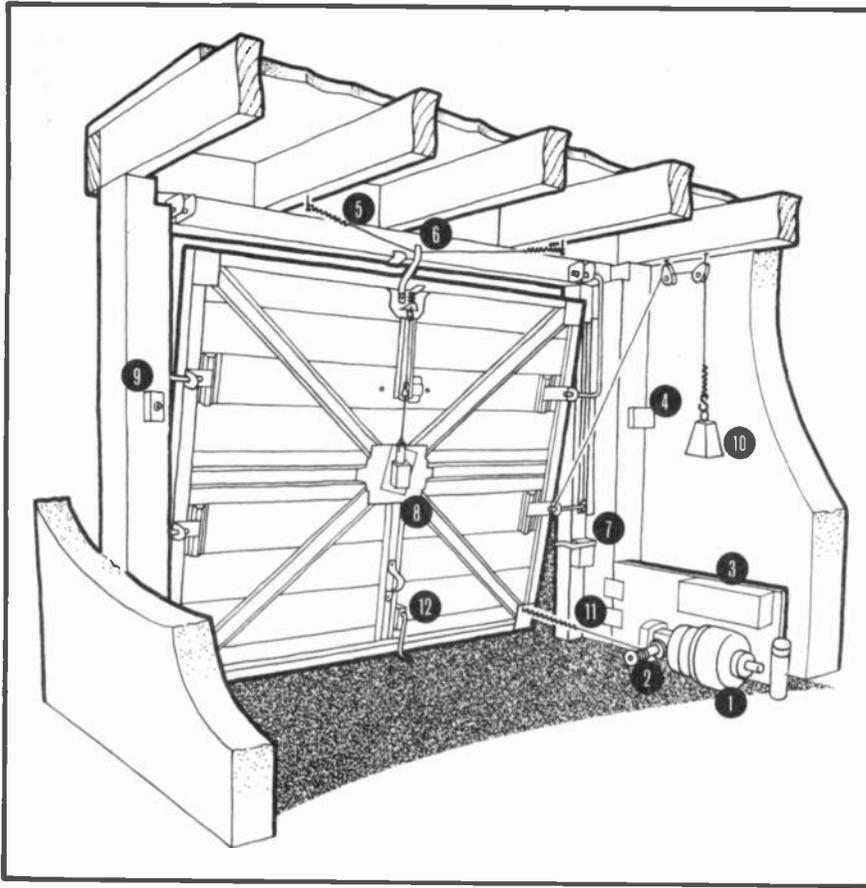
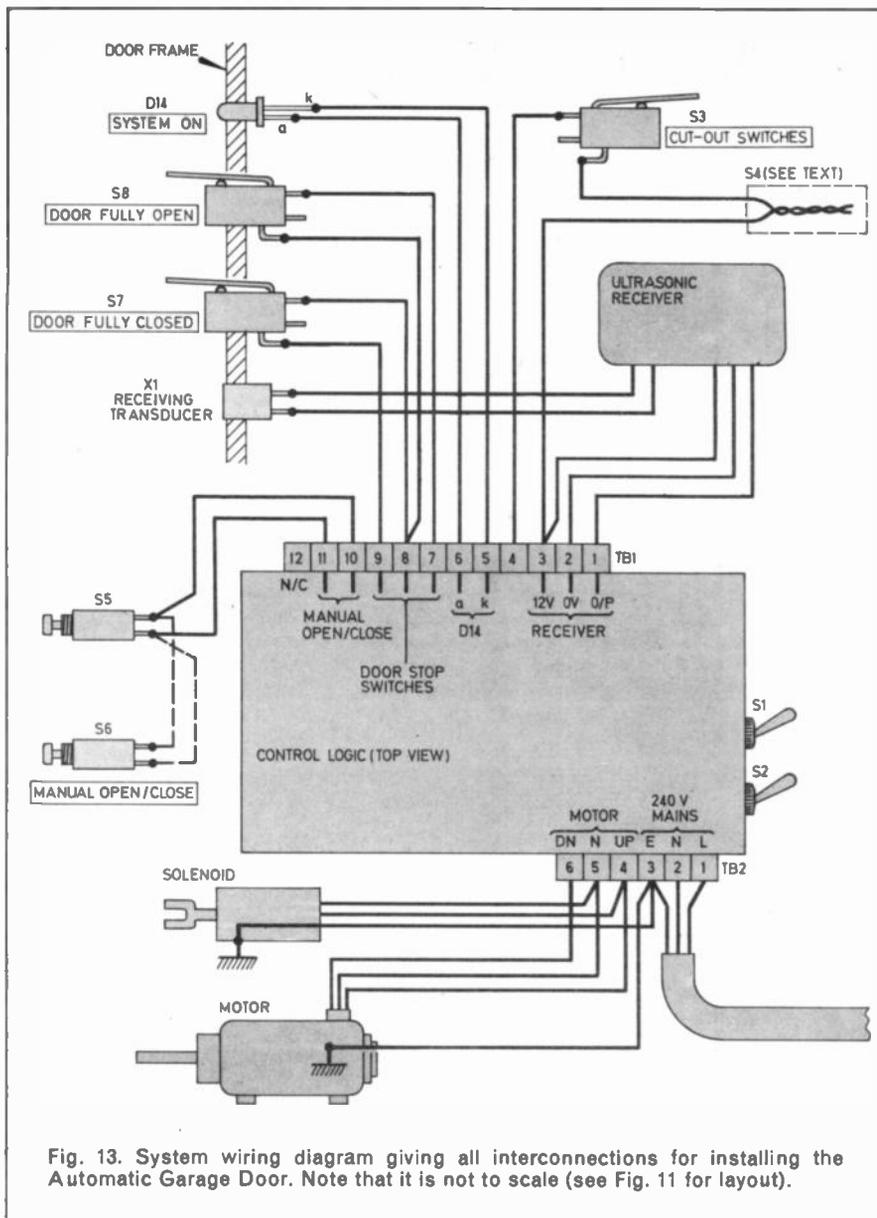

Fig. 11. Cut-away drawing of the garage showing the locations of the major mechanical components and electronic units.
Fig. 13. System wiring diagram giving all interconnections for installing the Automatic Garage Door. Note that it is not to scale (see Fig. 11 for layout).
The system works as follows: (note that all *item* numbers referred to are given in Fig. 11). With the door closed, the electronic control system receives the command to open from either the Ultrasonic Remote Control (*item 4*) or the push-button switches (*item 9*). The solenoid (*item 8*) will then activate to release the lock mechanism and the motor (*item 1*) will unwind the cord thus raising the door since it is counterbalanced towards opening.
A microswitch, S8, not shown in Fig. 11 but mounted outside so as to activate when the door is fully raised, signals for the motor to stop.
garage roof joists sufficiently high to clear the door. Fit two springs and a piece of cord tightly between the nails as shown in Fig. 11. Attach a metal bracket to the inside of the door, so that as it closes, it presses against the cord. The tension in the cord should initially open the door sufficiently to allow it to slowly rise. The nails should be fixed at about 250mm back from the door frame, but the exact position must again be located by trial and error.
To raise the door to the fully open position, a system of pulleys are employed whereby the point on the door which runs vertically in a "track" up the side of the frame is linked, via a cord, to a weight. This is illustrated in Fig. 2(d) and Fig. 11.
ITEMS LIST FOR FIG. 11
Door fully open switch, S8 (not shown in Fig. 11).
Having fitted all the various components, the wiring can commence. The wiring diagram, Fig. 13, used in conjunction with Fig. 11, shows all connections.